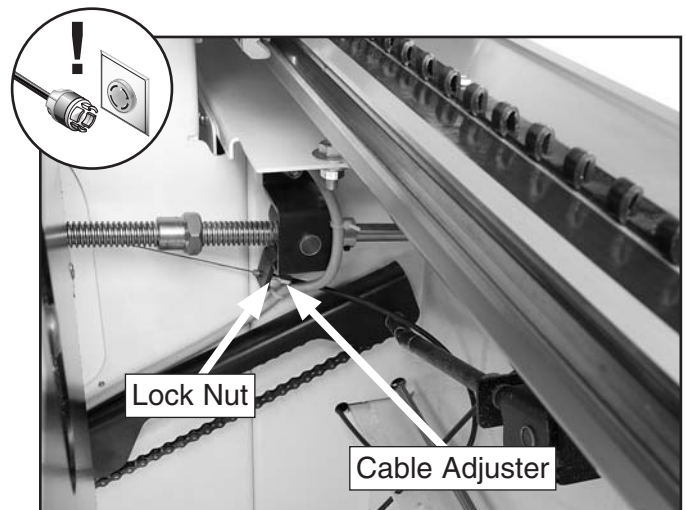

Figure 95. Blade angle cable adjuster.
4. Slide the table all the way forward, locate the cable adjuster shown in **Figure 95** on the inner right side of the cabinet, loosen the lock nut and turn the adjuster as needed until the angle indicator reads exactly 0°.